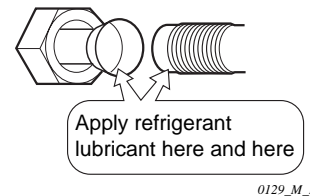

Fig. 10-4
- (1) Apply a sealing cap or water-proof tape to prevent dust or water from entering the tubes before they are used.
- (2) Apply refrigerant lubricant to the matching surfaces of the flare and union before connecting them together. This helps to reduce gas leaks. (Fig. 10-4)